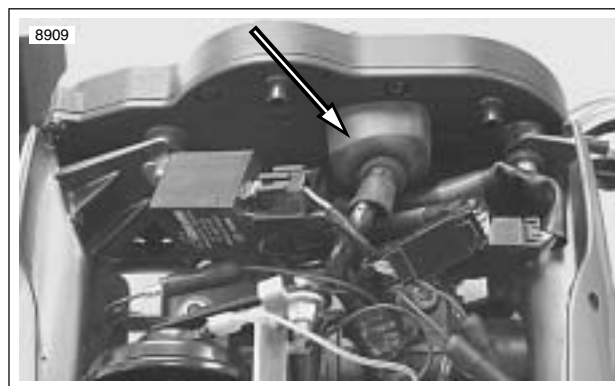
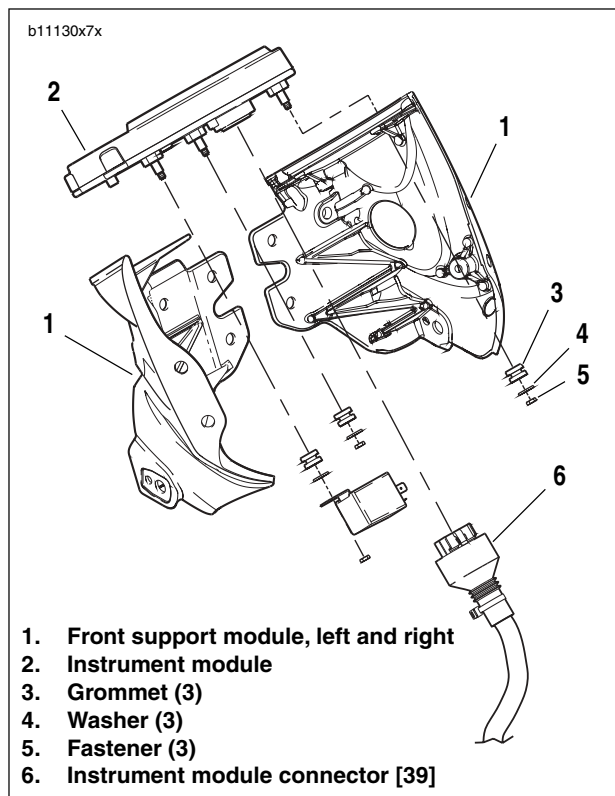

Figure 7-63. Instrument Module Connector [39]
Figure 7-64. Instrument Module
4. See Figure 7-63. Disconnect instrument module connector [39].
5. See Figure 7-64. Remove fasteners (5) and washers (4).
6. Pull instrument module (2) from front support module (1).
1. See Figure 7-64. Place instrument module (2) into position in front support module (1).
2. Install washers (4) and fasteners (5). Tighten fasteners to 12-36 in-lbs (1.4-4.1 Nm).
3. See Figure 7-63. Connect instrument module connector [39].